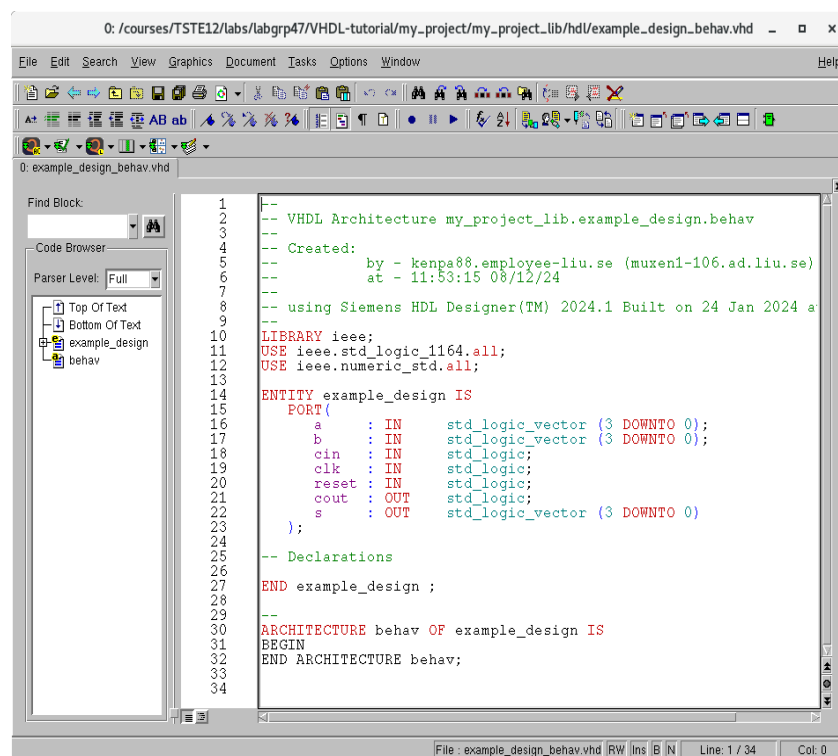

Figure 18 New VHDL combined view
4. Inspect the window Figure 18, “New VHDL combined view”. The complete combined view is shown. However, only the architectural is to be changed here. The entity part is generated from the symbol.